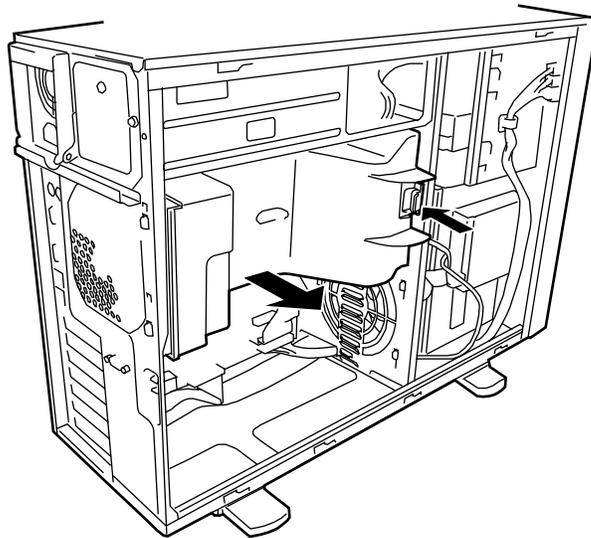

Figure 4-3. Removing the Air Duct
3. Hold the left side of the air duct, and push the right end of the tab to release from the chassis. See Figure 4-3.